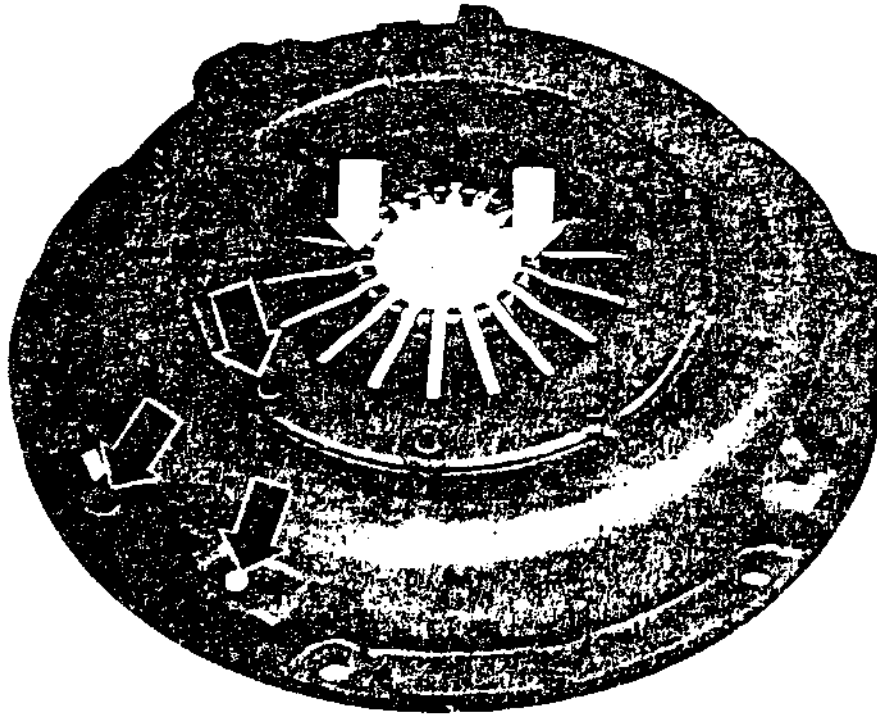

Figure 3 Checking Diaphragm Spring Fingers and Rivets
- (c) Check the pressure plate cover for cracks and ensure the rivets are tight and undamaged. Replace the pressure plate, if necessary, see Figure 3.
- (d) Check the diaphragm spring fingers at the location of the throw-out bearing contact for grooving. If grooving exceeds 0.3 mm (0.012-inch) in depth, replace the pressure plate, see Figure 3.